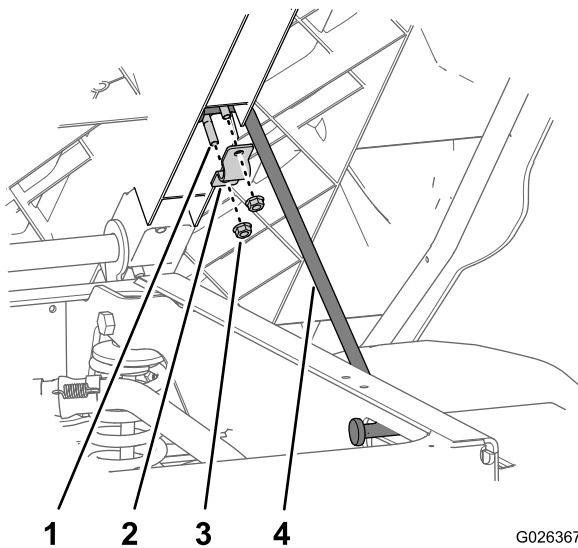

Figure 2
4. Remove the 2 carriage bolts (5/16 x 5 inch) and 2 serrated nuts(5/16) that secure the saddle bracket and the upper end of the prop rod to the box (Figure 2).